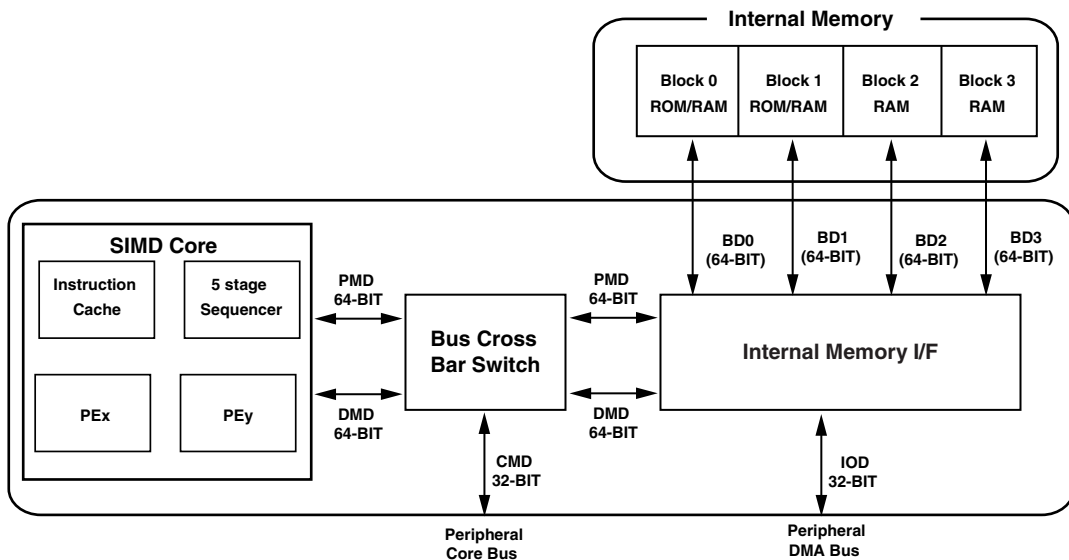
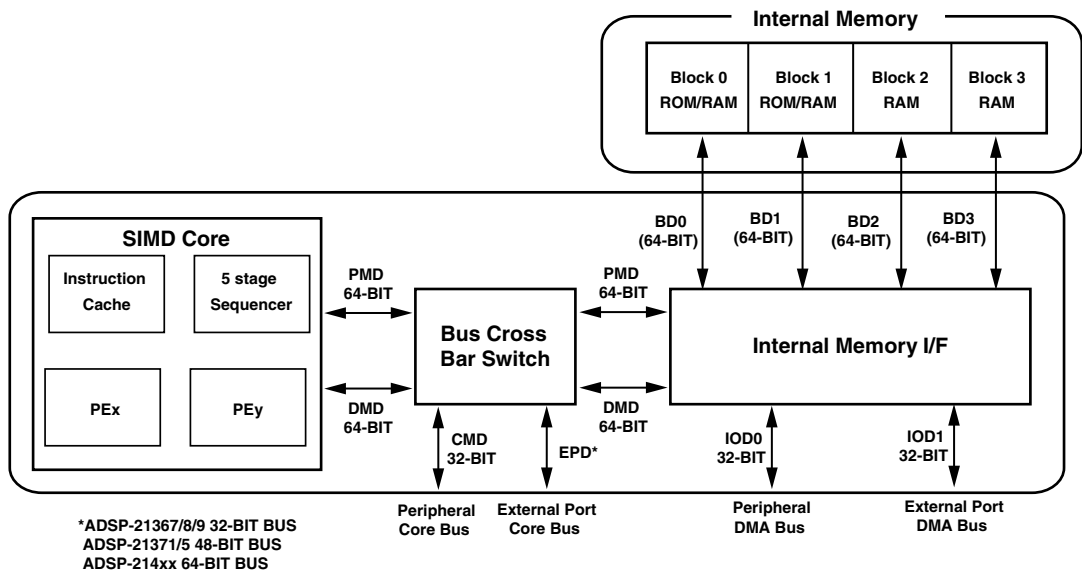

Figure 7-2. Memory and Internal Buses Block Diagram (ADSP-21362/3/4/5/6 Only)
Figure 7-3. Memory and Internal Buses Block Diagram (All Other SHARC Products)
All writes to IOP peripheral register space pass through a bridge (CCLK to PCLK) as shown in Figure 7-2 and Figure 7-3. The bridge contains a write buffer to hold the write address and data. After the core has written to the bridge, it is the bridge's responsibility to complete a write access (which allows pipelined accesses). The write access takes one core clock cycle (CCLK). Since the CCLK to PCLK ratio is 1:2, the core IOP register access can occur during rising or falling edge of PCLK. The rising edge takes four (best case) and falling edge takes five (worst case) CCLK cycles to complete the write. The newly written value to the IOP register can be read back on the next instruction.
The processor has up to four sets of internal buses connected to its single-port memory, the program memory (PM), data memory (DM), and I/O processor (IOP) buses. The IOP bus is designed to run only at half the core clock frequency. The three buses share the single port on each of the four memory blocks. Memory accesses from the processor's core (computational units, data address generators, or program sequencer) use the PM or DM buses, while the I/O processor uses the IOP bus for memory accesses. The I/O processor can access external memory devices. For more information about the external memory and I/O capabilities of the processor, see the product-specific hardware reference. Figure 7-2 on page 7-6 and Figure 7-3 on page 7-7 show the bus structures of the ADSP-21362/3/4/5/6 processors and the ADSP-21367/8/9 and later products respectively.